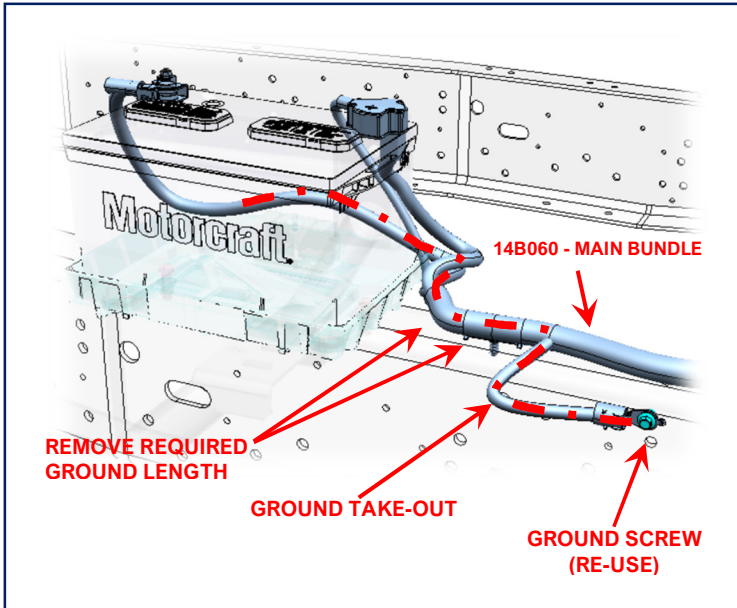

Figure 1
- If additional ground length is required; please separate the needed ground length from main bundle. Reference **Figure 1**.